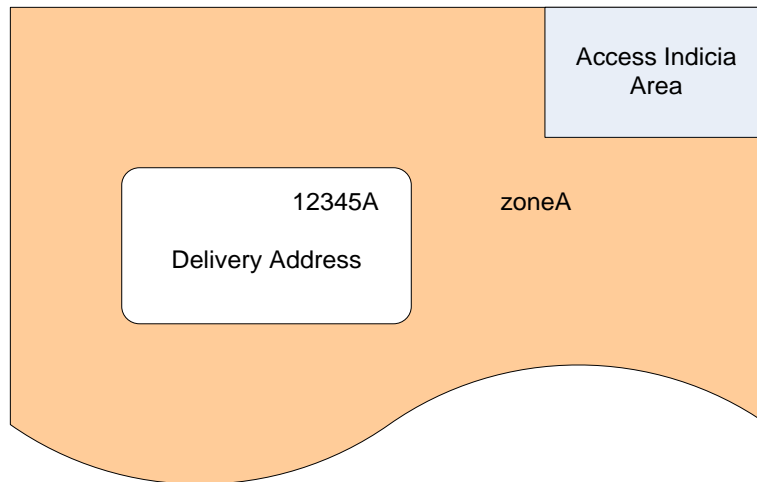

Figure 26: Positioning options for Zonal indicator
- 4.2 There are two options relating to the positioning of the Zonal Indicator on your Mailing Items (see Figure 26):